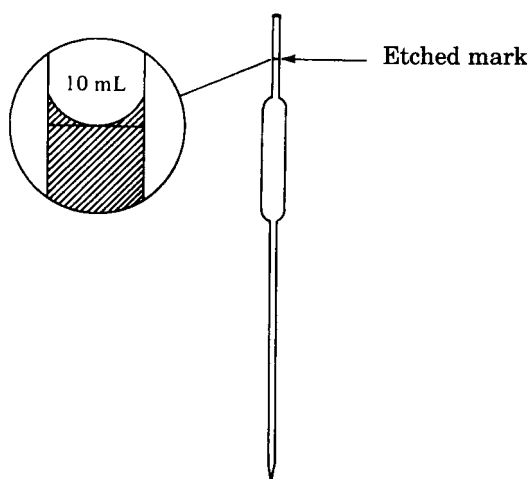

Figure 2.4
7. Adjust the level of the meniscus of the liquid by carefully pressing valve "E." The level should lower until the curved meniscus touches the etched mark (Figure 2.4). Carefully draw the tip of the pipet lightly along the wall of the beaker to remove excess liquid.